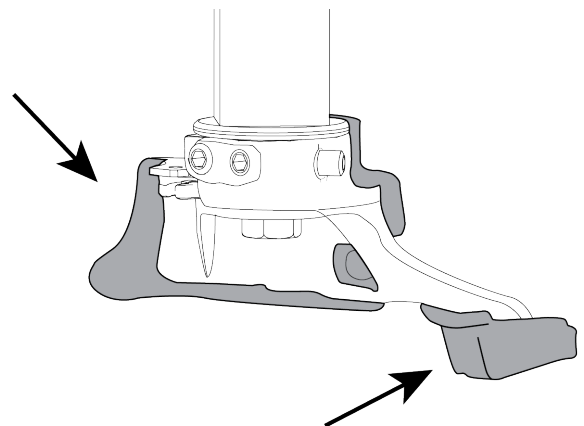

Fig. 23: Mounting Plastic guard set for tools
3. Set the angle of the bead breaker blade (Fig. 23) to suit the tire diameter.